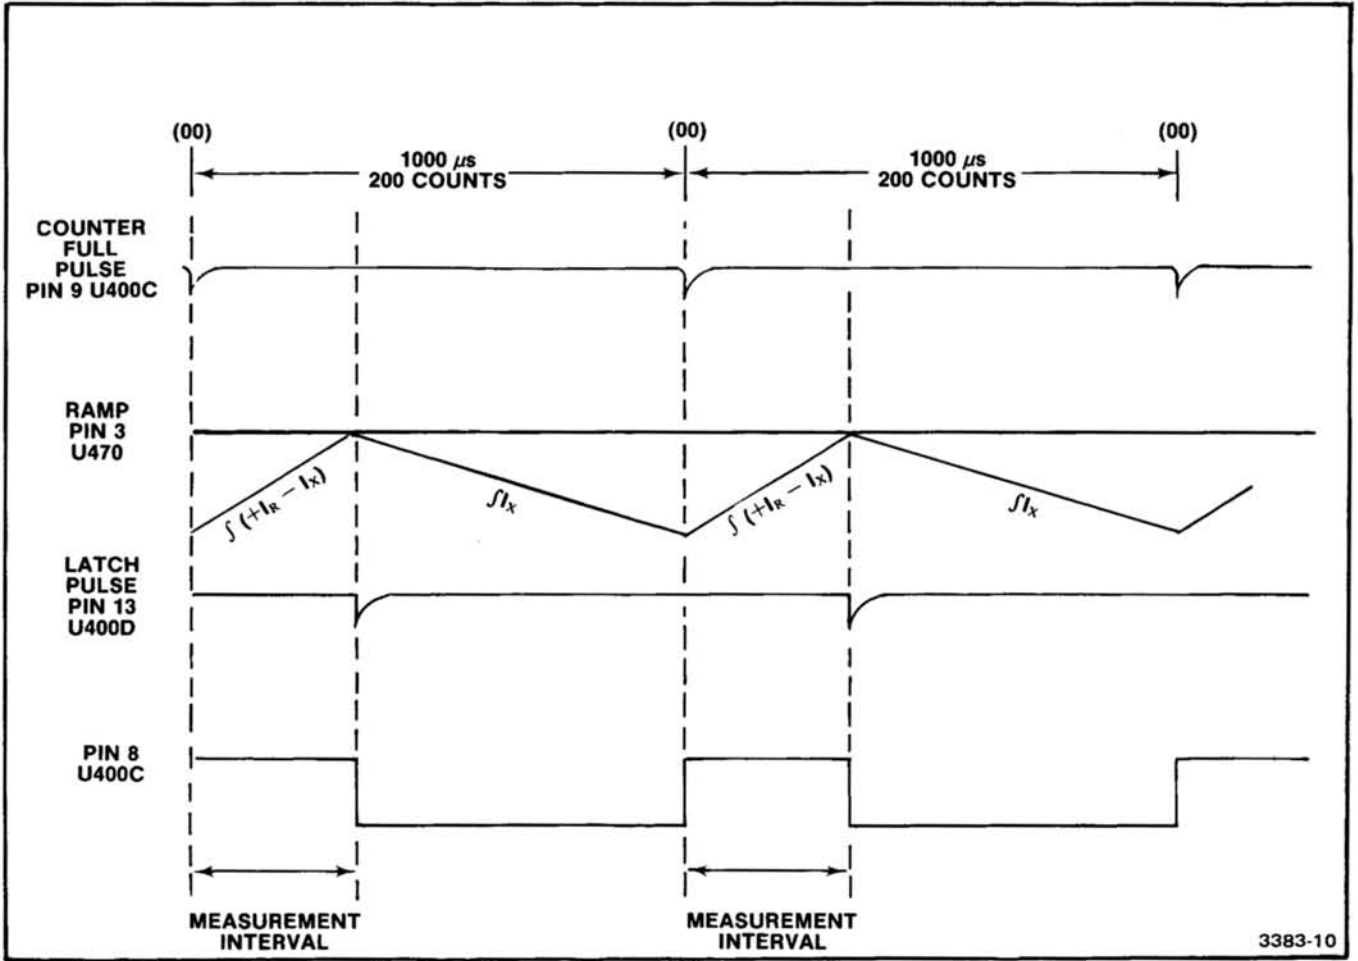

Fig. 3-1. DVM timing diagram for a negative input to the integrator U460.
The system contains two reference current sources; a +I, source from the collector of Q415 and a -I, source from the collector of Q400. Only one of these current sources is switched on at a given time, dependent on the polarity of the voltage change on the 100 V bus. For a ramp that is negative, pin 5 of U400B is set high and pin 1 of U400A is set to a low. Pins 2 and 4 of these NAND gates connect to a common control line and, while the counter is counting up to a count of 200 (00), pin 8 of U400C is at a low level. During the first ramp period, the output levels of U400A and U400B are high and both reference current sources are cut off. See Fig. 3-1.